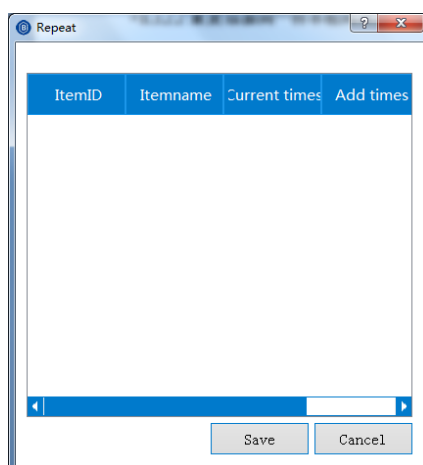

Figure. 8.3.10 Repeated addition of test items.
- Click **Repeat**, as the pop-up interface is as shown in Figure 8.3.10